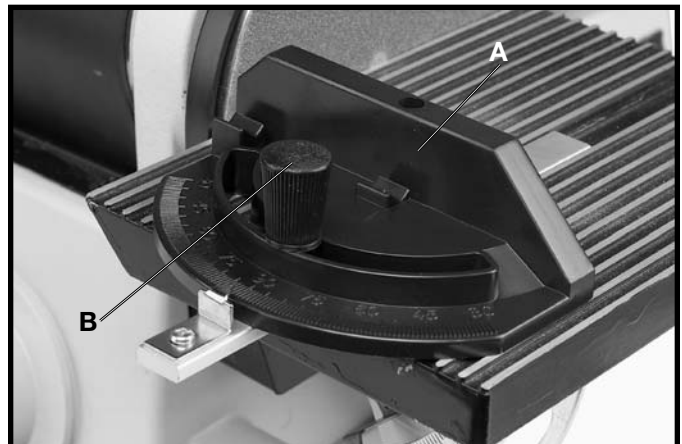

Fig. 35
A miter gage (A) Fig. 35, is supplied with your machine and is used with the disc table. The miter gage body (A) can be rotated right or left for angle or miter sanding by loosening lock knob (B), rotate miter gage body and tighten lock knob (B).